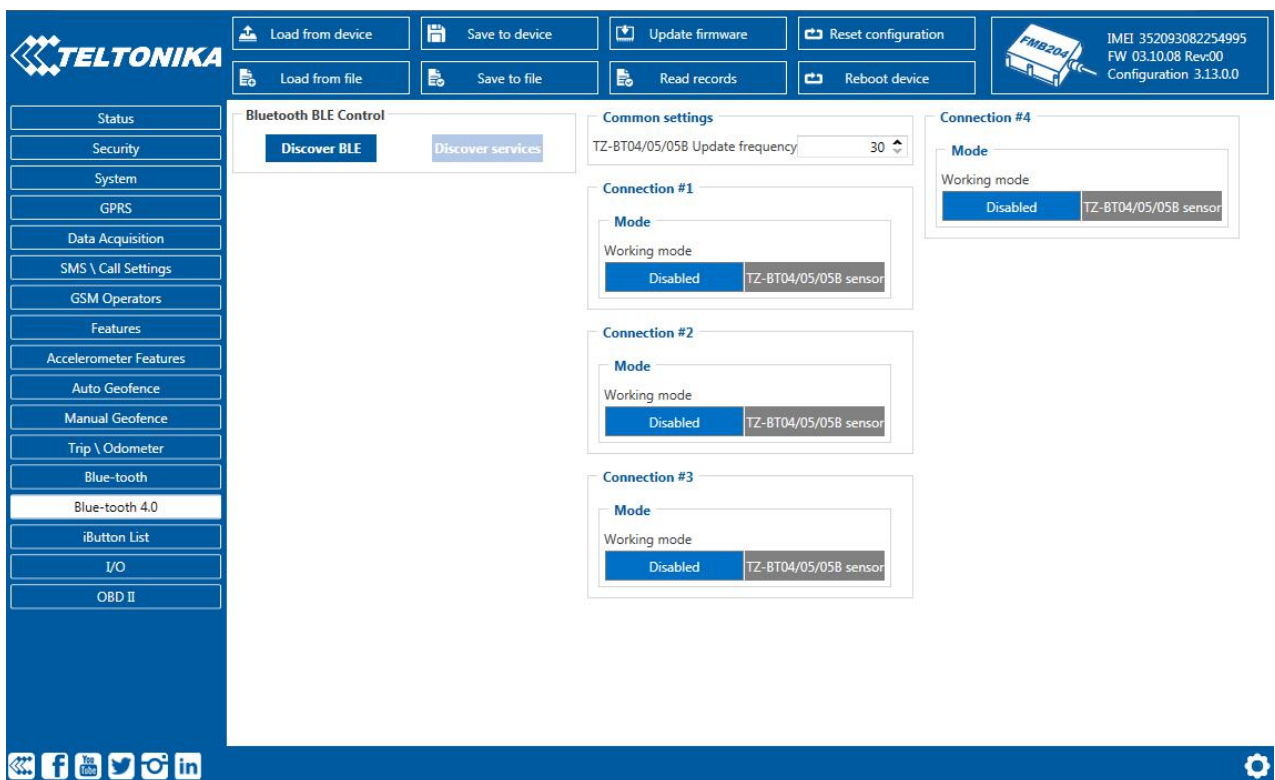

Figure 38 1- blue-tooth 4.0 settings; 2 - Enable blue-tooth mode; 3 - blue-tooth ID (MAC);
- When device configuration is loaded press „**blue-tooth 4.0**“ settings (**Figure 38** 1 position).
- Change BTLE Radio mode by pressing „**TZ-BT04/05 sensor**“ (**Figure 38** 2 position). „**ID**“ (**Figure 38** 3 position) is the sensor’s MAC address that you want to connect.